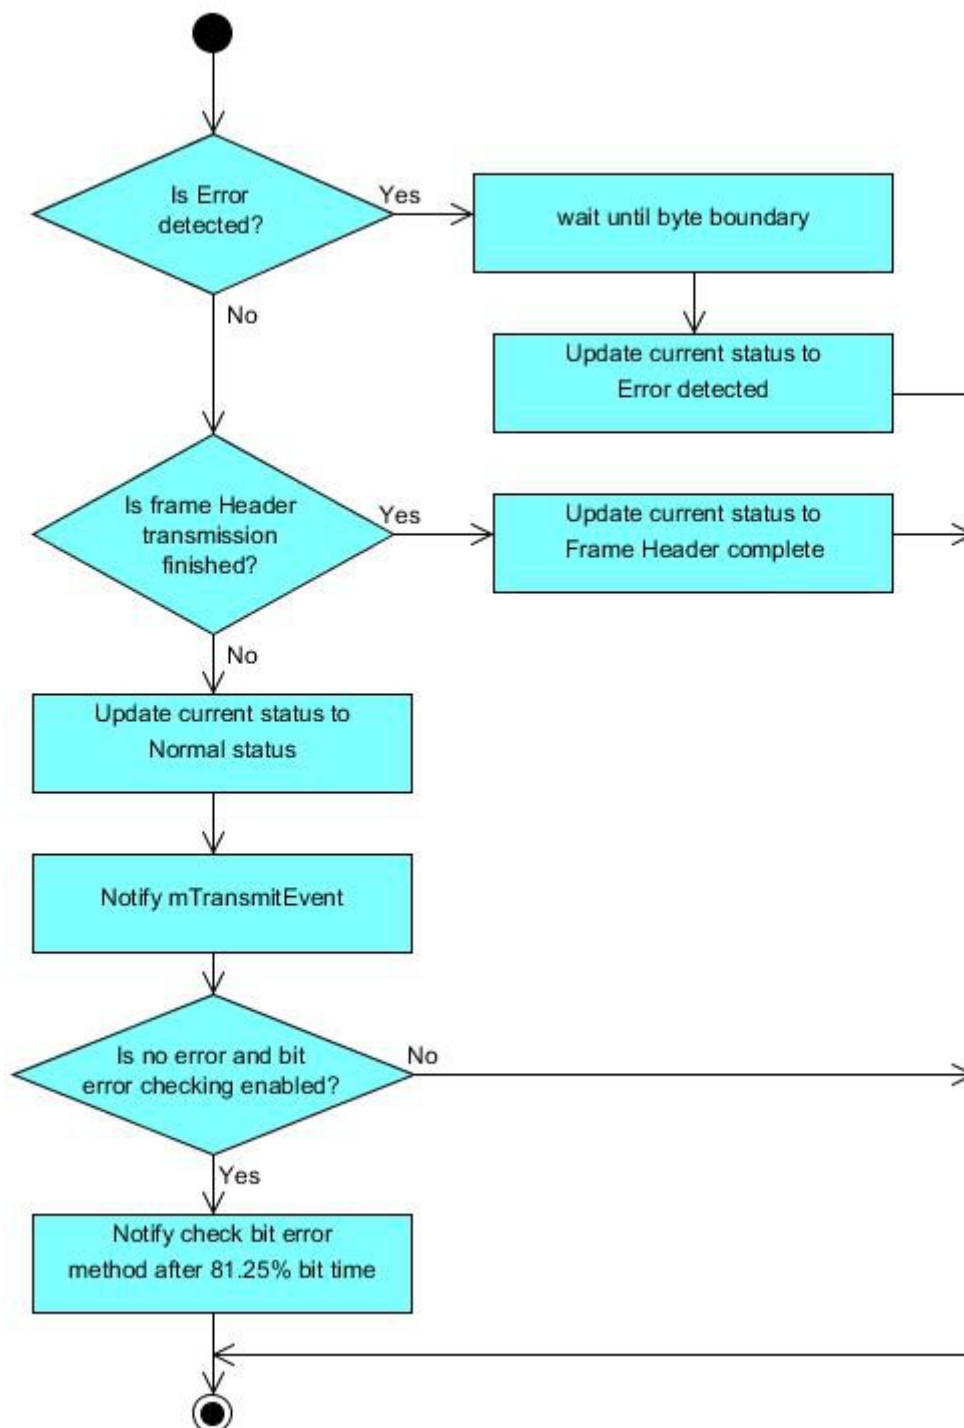

Figure 7.22: Transmit Header loop flow
- (2) FRA_TRANSMIT_RECEPT: When RLIN3 moves to this state, the frame header transmission process and frame header reception process are progressed in parallel. Refer to the figure 7.22 for the frame header transmission process and refer to the figure 7.26 for the frame header reception process. After finishing frame header transmission and reception processes, RLIN3 moves to RES_TRANSMIT_RECEPT and continues to do response data operations.